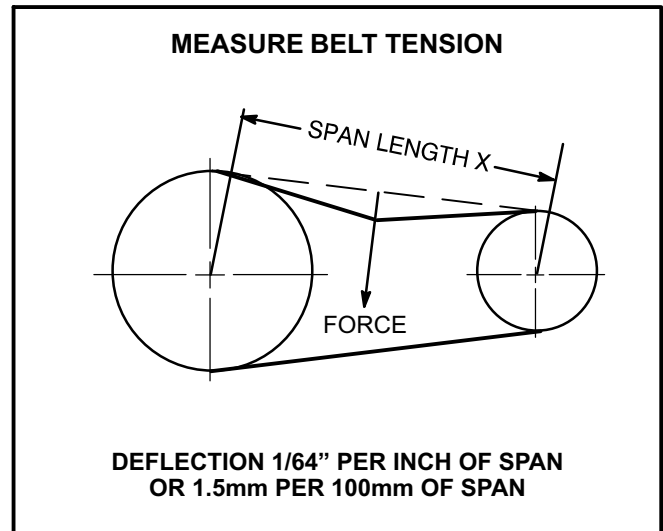

FIGURE 17
- 1- Measure span length X. See figure 17.
- 2- Apply perpendicular force to center of span (X) with enough pressure to deflect belt 1/64" for every inch of span length or 1.5mm per 100mm of span length.